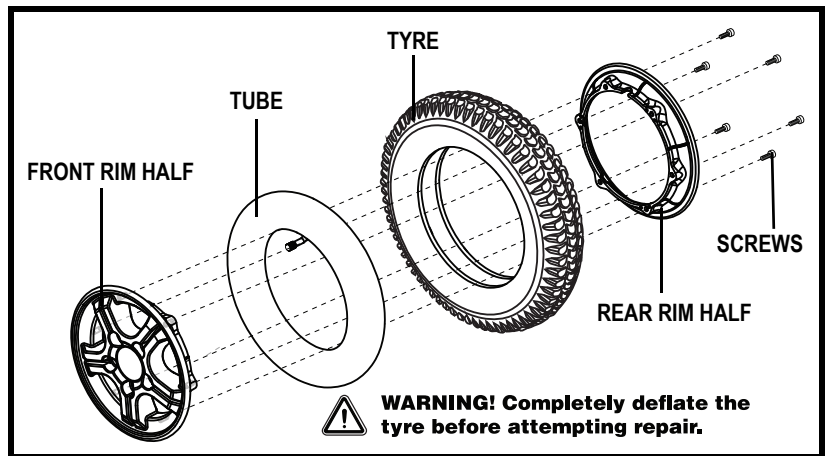

Figure 27. Fusion Drive Wheel Disassembled
6. Remove the screws and separate the front and rear rim. See figure 27.